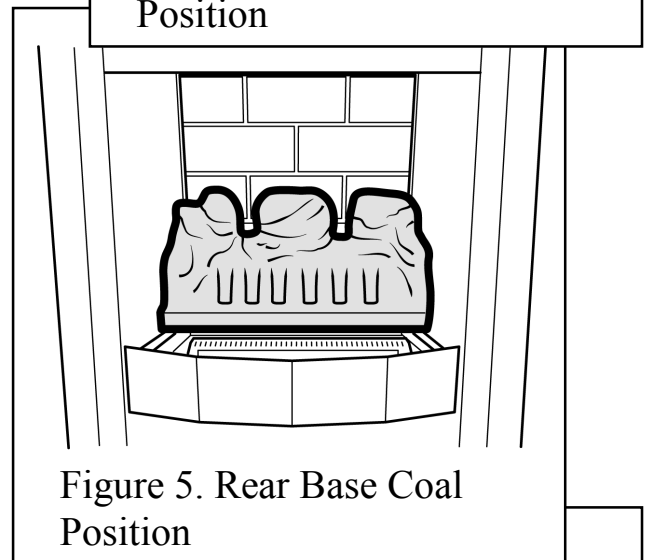

Figure 5. Rear Base Coal Position
2. Place the rear base coal in the firebox. It should rest on the ledges at the sides and back of the firebox and its rear face should touch the rear ceramic wall. See figure 5.